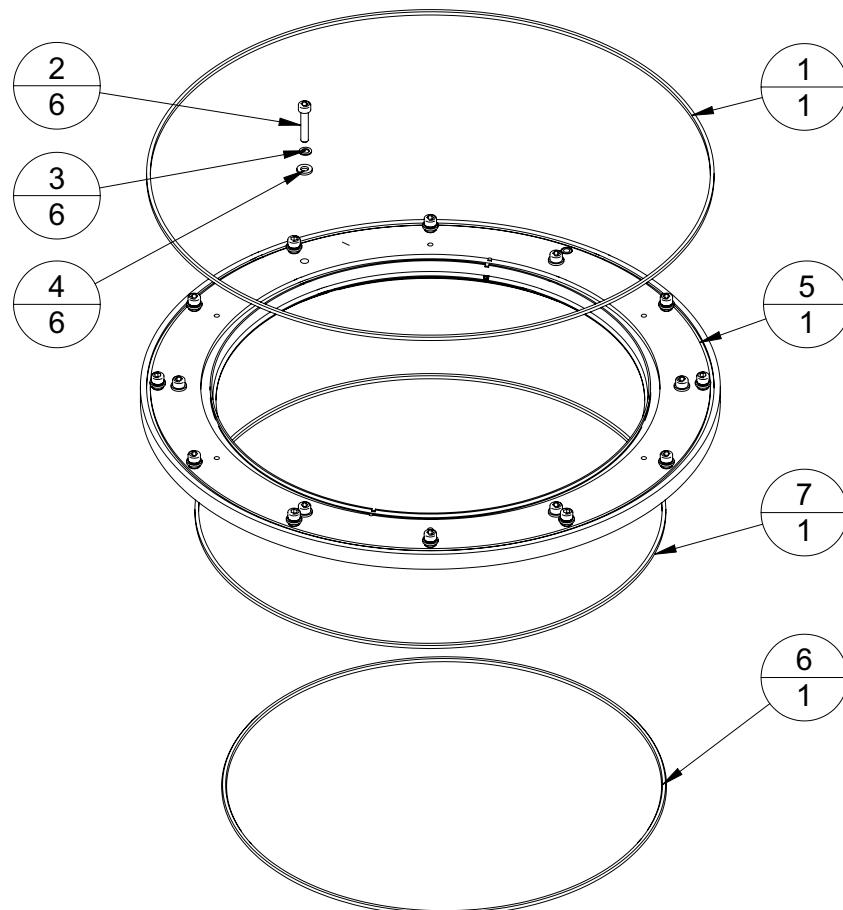

Figure 4.11 SCIF Ring EMI Shielding and O Ring
1. Refer to Figure 4.11.
3. Remove and discard the EMI shielding (1) from the top of the SCIF ring.
4. Remove the twelve M6 x 16 screws (2), spring washers (3) and washers (4).
5. Remove the SCIF ring (5).
6. Remove and discard O ring (6) and EMI shielding (7).